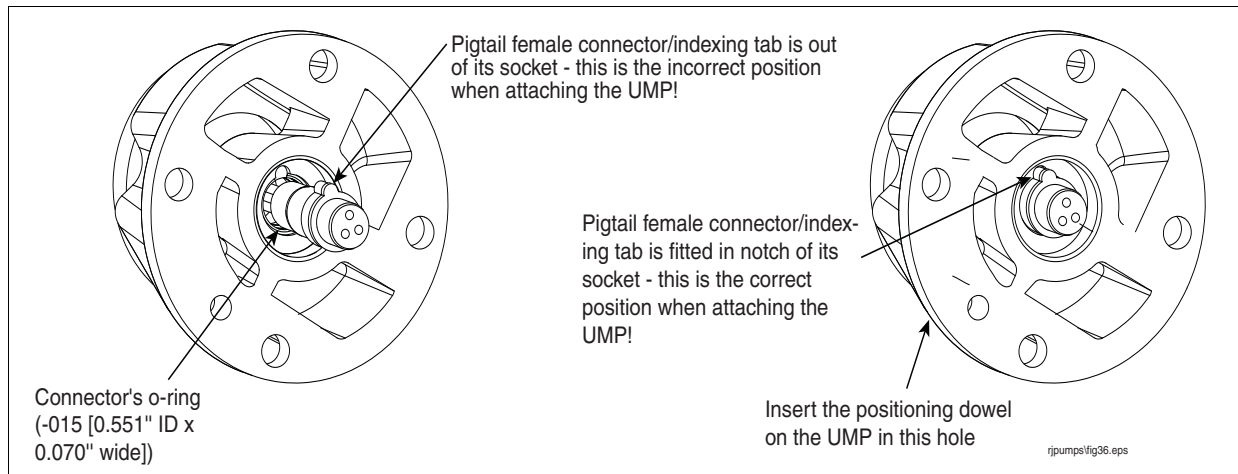

Figure 6. Verifying Pigtail's Female Connector Is Seated Properly
1. Visually inspect the pigtail connector in the end of the discharge head. Be certain the pigtail connector is seated in its socket and its index tab is in the socket's notch (see Figure 6).
- Align the UMP positioning dowel insert in the proper hole in the discharge head (see Figure 6) and push the UMP into position using hand force only. The UMP should be snug against the discharge head prior to installing the UMP retaining bolts.